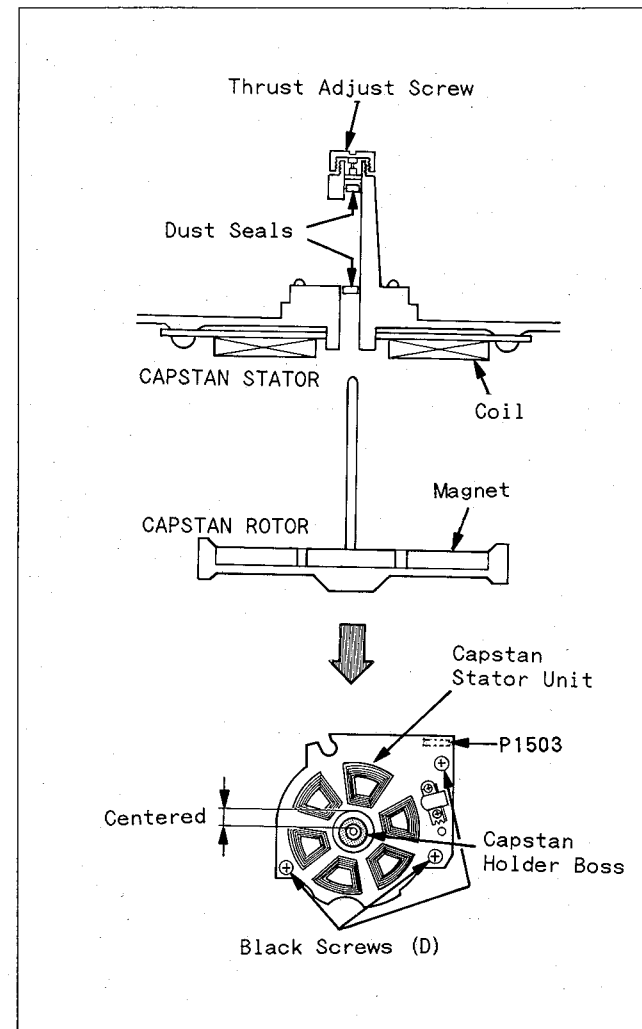

Fig. M15
3. Carefully pull out the Capstan Rotor Unit, taking care so as not to lose the 2 Dust Seals as shown in Fig. M15.
7. Replace the new Capstan Rotor, carefully inserting the 2 Dust Seals as shown in Fig. M15.